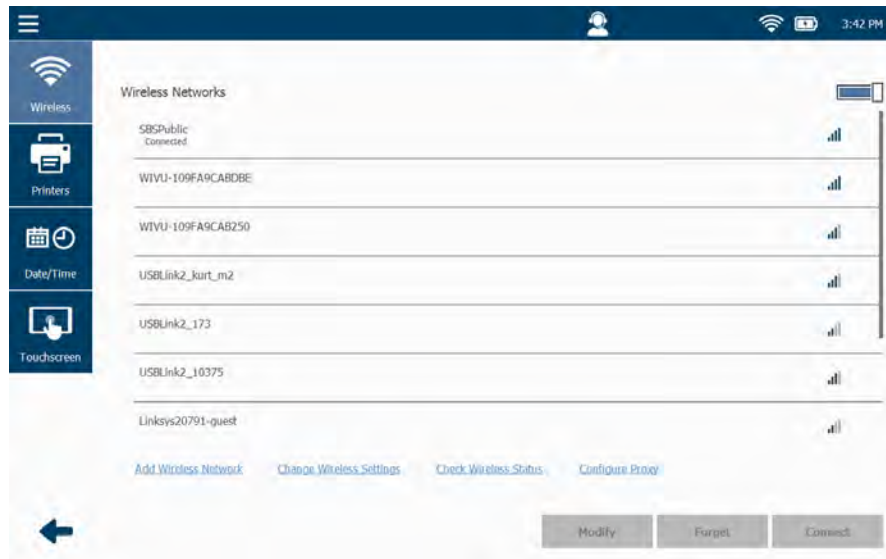

Figure 6.12 Settings Menu
- 1 Select **Printers** from the Settings Menu (Figure 6.12).